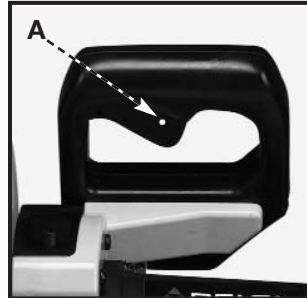

Fig. 11
To start the machine, depress switch trigger (A) Fig. 11. To stop the machine, release the switch trigger.
This saw is equipped with an automatic electric blade brake. As soon as the switch trigger (A) Fig. 11 is released, the electric brake is activated and stops the blade.
⚠ WARNING A turning saw blade can be dangerous. After completing the cut, release the switch trigger (A) Fig. 11 to activate blade brake. Keep cuttinghead down until the blade has come to a complete stop.